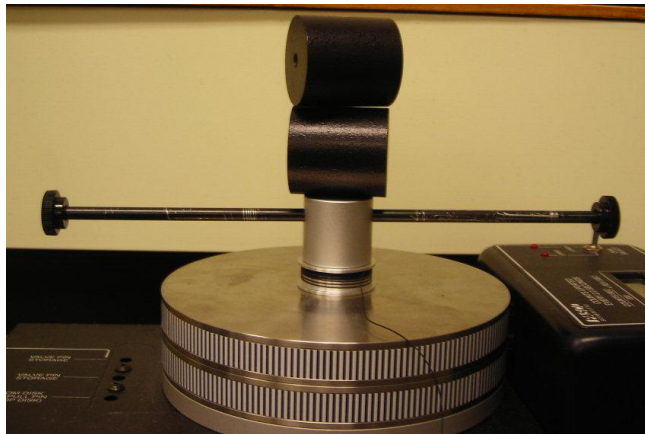

Figure 7.6: View of main axle with 2 masses at radius  $r = 0$
10. We would like to place the two cylinders at  $r = 0$ . To do this, we will use the vertical bar on the support (see Figure 7.6). When you place the cylinders on the vertical bar, make sure they are oriented the same way as in your previous trials, i.e. with the axes of the two cylinders perpendicular to the vertical bar. As before, make sure to tighten the thumbscrews on the cylinders. Follow the procedure in steps 3–8 to calculate the moment of inertia of the body with the two cylinders at  $r = 0$ . Include this data in your data table.